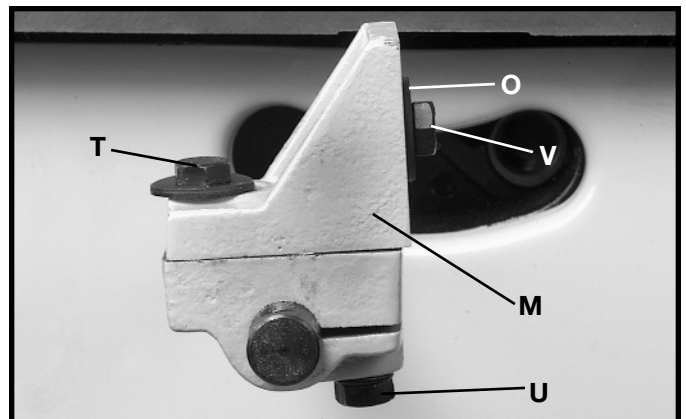

Fig. 15
7. Loosen screws (T) and (U) Fig. 15, and remove screw (V) and washer (O).